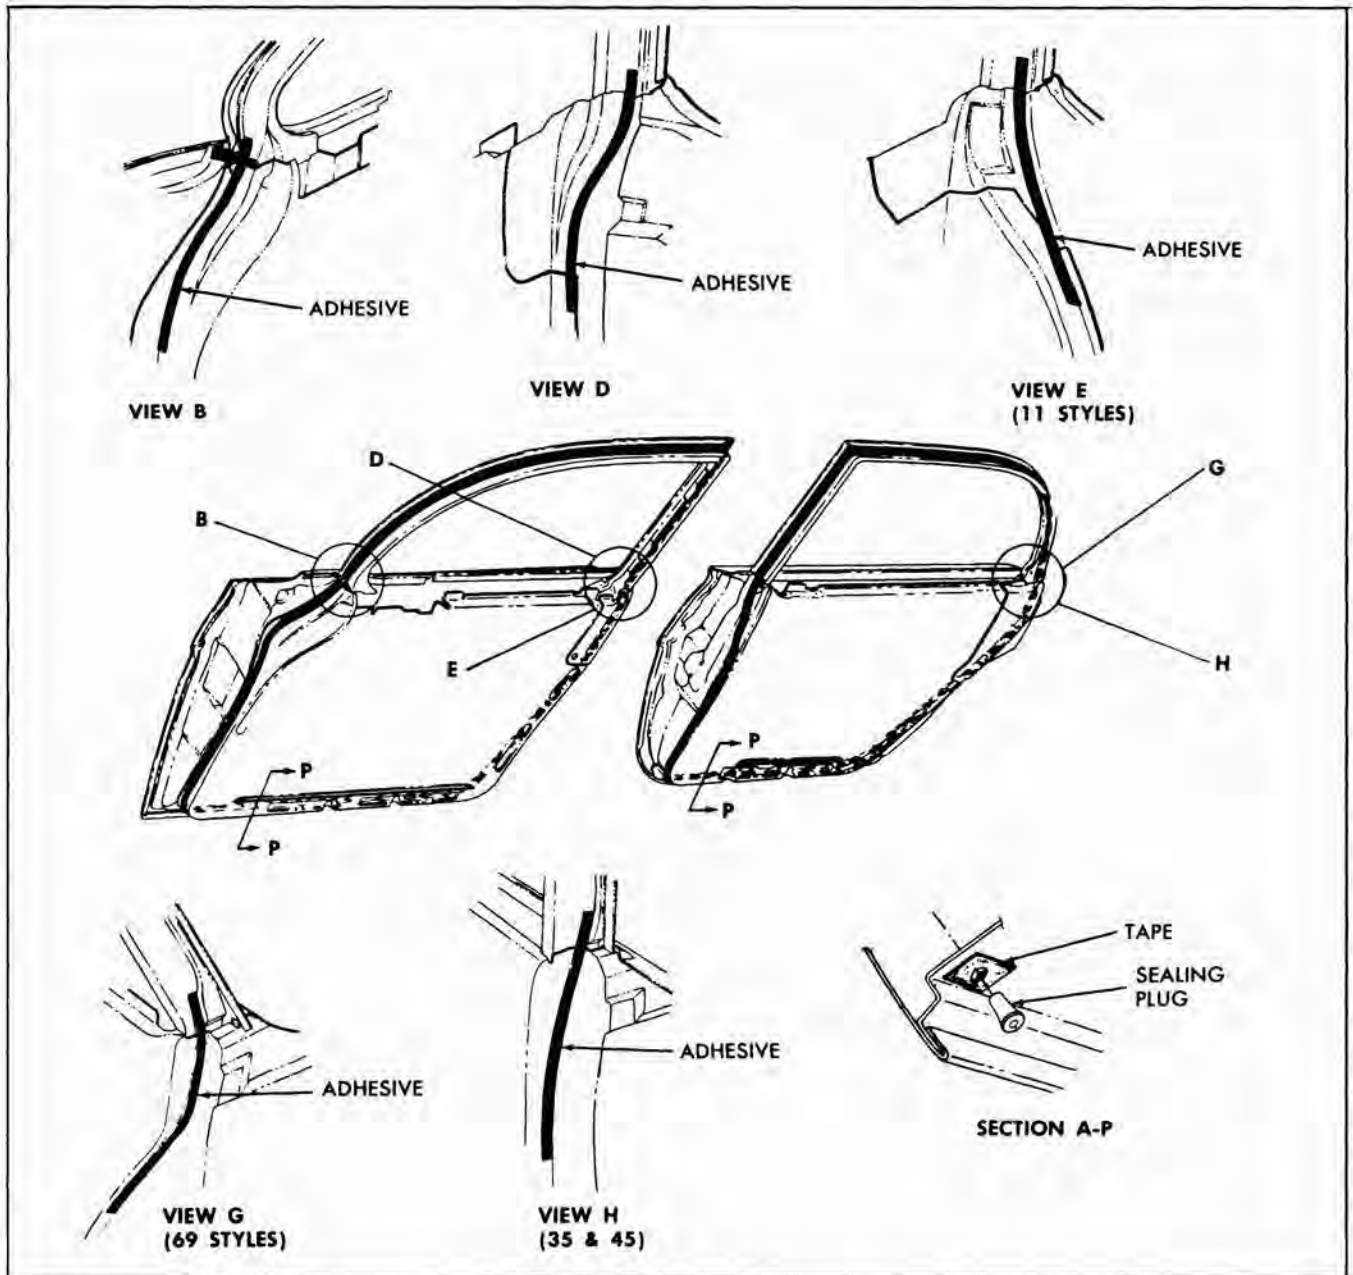

Fig. 3-4 Door Weatherstrips - 11, 35, 45, 69 Styles
2. On front doors, carefully break cement bond securing weatherstrip to door lock pillar facing of door. On rear doors, carefully break cement bond securing weatherstrip to door hinge pillar and lock pillar facings of door (views "B", "D" and "G" in Fig. 3-4). Remove weatherstrip from door.
as shown in Section "P-P", Fig. 3-4. Make two (2) 5/16" slits in tape to form an "X". Install plugs and check for a snug fit. If plug is still loose, repeat above operation by installing a second piece of tape over existing repair. This procedure may also be used to repair waterleaks which develop at sealing plug locations.
(9) inches long to hinge pillar and lock pillar facings of front door at belt area (views "B" and "D" Fig. 3-4).
b. Apply a bead of weatherstrip adhesive nine (9) inches long to lock pillar facing of rear door at belt area (view "G" Fig. 3-4).